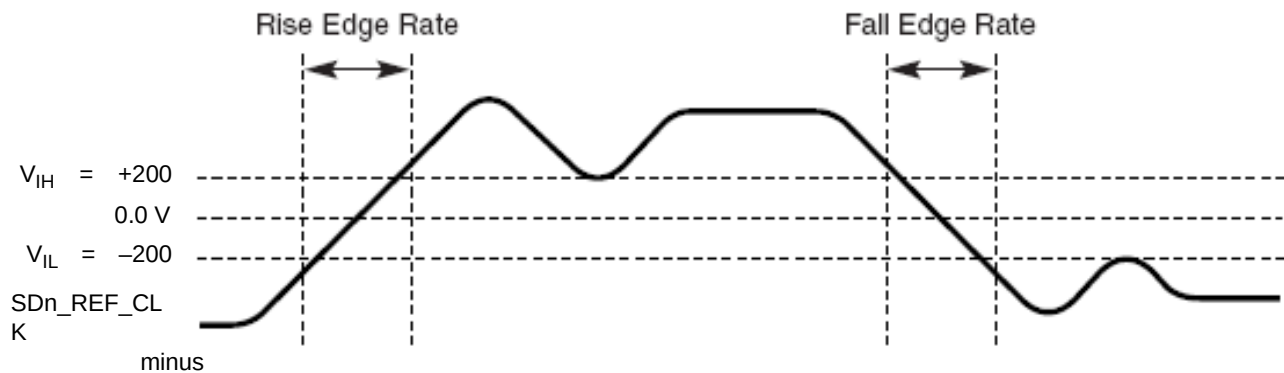

Figure 46. Differential Measurement Points for Rise and Fall Time
The differential waveform is constructed by subtracting the inverting signal ($\overline{TXn}$, for example) from the non-inverting signal (TXn , for example) within a differential pair. There is only one signal trace curve in a differential waveform. The voltage represented in the differential waveform is not referenced to ground. Refer to Figure 46 as an example for differential waveform.
3. Measured from -200 mV to +200 mV on the differential waveform (derived from SDn_REF_CLK minus $\overline{\text{SDn_REF_CLK}}$). The signal must be monotonic through the measurement region for rise and fall time. The 400 mV measurement window is centered on the differential zero crossing. See Figure 46.